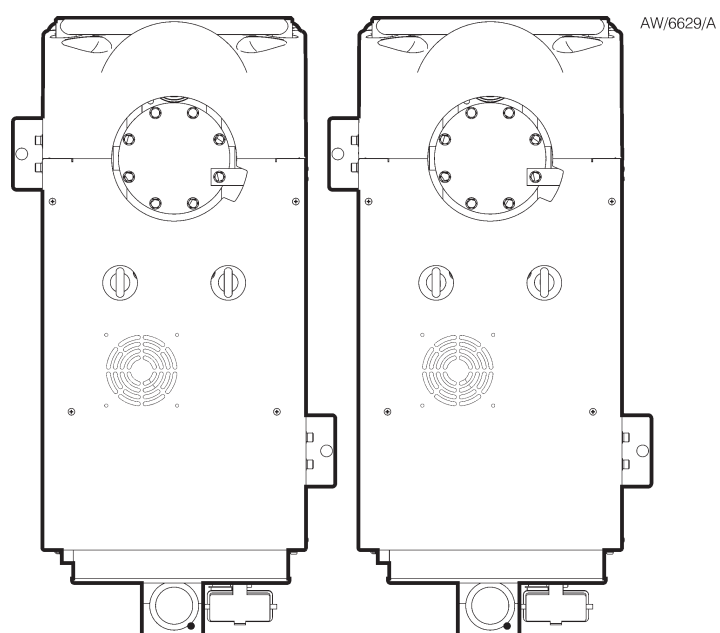

Figure 3-5 - System arrangement to reduce effective footprint (if required)
- although the iH system is supplied with four seismic brackets, two brackets are capable of protecting the system during an earthquake. The system can therefore be secured as shown in Figure 3-5 for example, to reduce the effective system footprint if required.